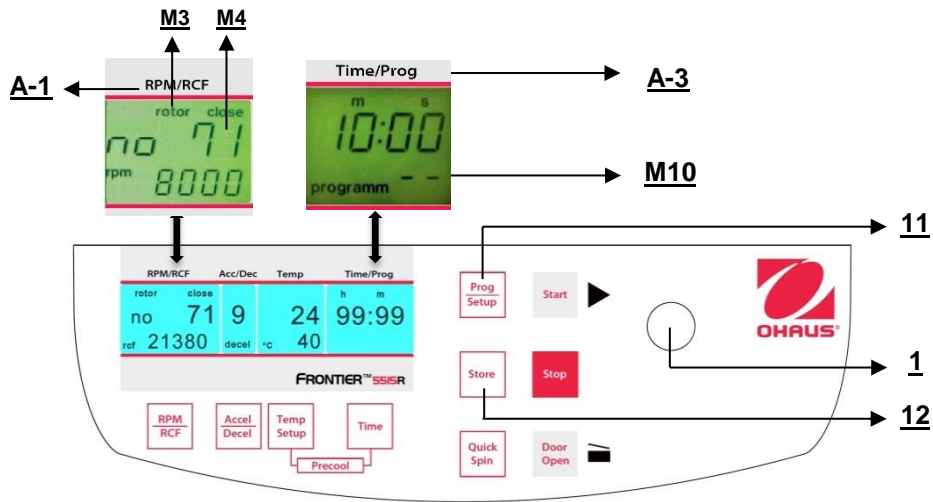

Figure. 25
To recall stored programs press the key "Prog/Setup" (11) (refer to figure 25) while the lid is already closed. Inside the display "Time/Prog" (A-3), "programm -"(M10) appears. The desired program number can be pre-selected with the adjusting knob (1).
To leave the program mode just press the key "Prog/Setup" (11) (refer to figure 25). Then inside the display "Time/Prog" the word "programm" appears.